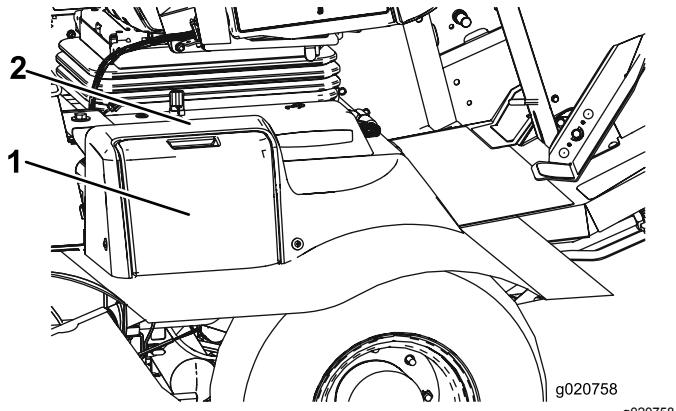

Figure 82
- Open the battery cover on the side of the shroud (Figure 82).
**Note:** Press down on the flat surface above the battery cover to ease the removal of the cover (Figure 82).